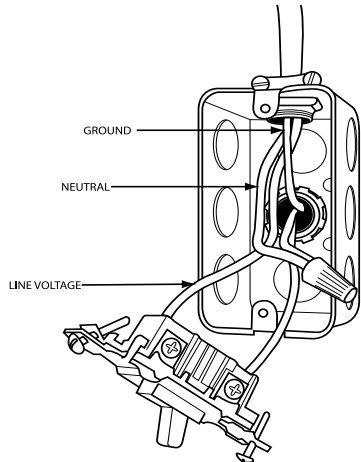

Fig. 35 – External Electrical Box
5. Fasten the external electrical box to the furnace casing using two (2) sheet metal screws.
11. Connect field power and neutral leads to furnace power leads inside the external electrical box as shown in Fig. 35.
9. Connect field power and neutral leads to furnace power leads inside the external electrical box as shown in Fig. 35.